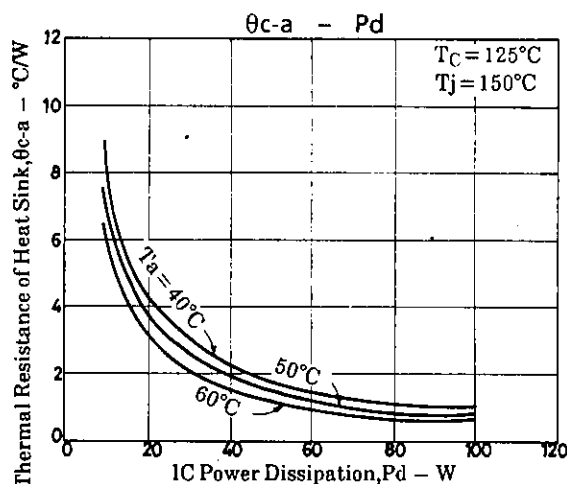

Fig.2 STK4231 II.  $\theta_{c-a} - P_d$
Fig.2 shows the relation between  $P_d$  and  $\theta_{c-a}$  given from (1) and (3) with  $T_a$  as a parameter.
The thermal resistance of a heat sink is obtained from Fig.2.